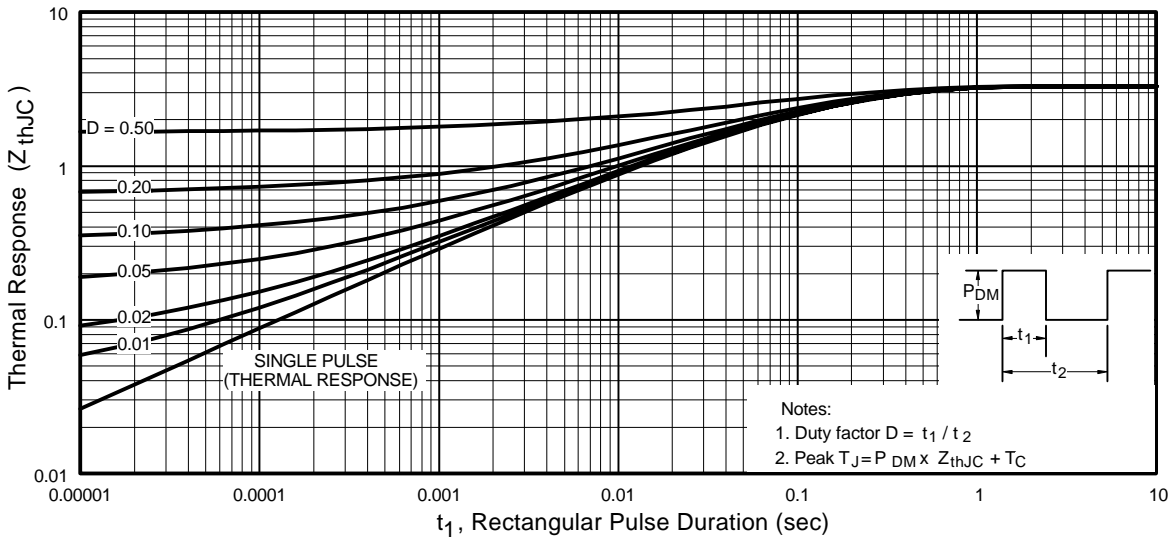

Fig 11. Maximum Effective Transient Thermal Impedance, Junction-to-Case
- ① Repetitive rating; pulse width limited by max. junction temperature. (See fig. 11)
- ② Starting $T_J = 25^\circ\text{C}$, $L = 9.5\text{mH}$